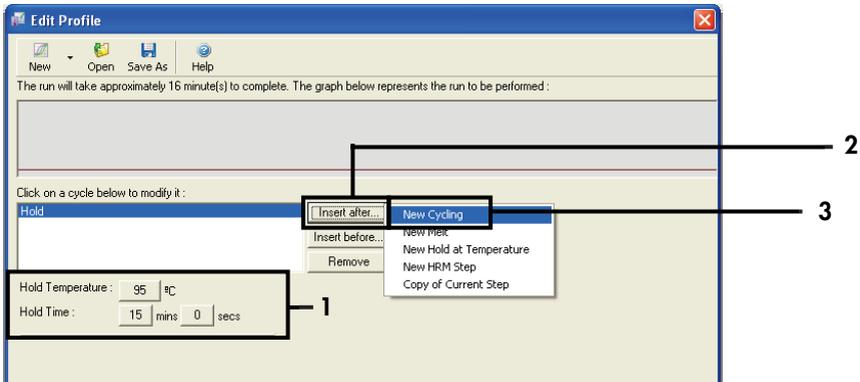

Figure 24. Initial incubation step at 95°C. 1 = "Hold Temperature and Hold Time"; 2 = "Insert after"; 3 = "New Cycling".
7. Set the value in the **Hold Temperature** field to **95°C** and the value in the **Hold Time** field to **15 mins 0 secs**. Click **Insert After**, then select **New Cycling** (Figure 24).